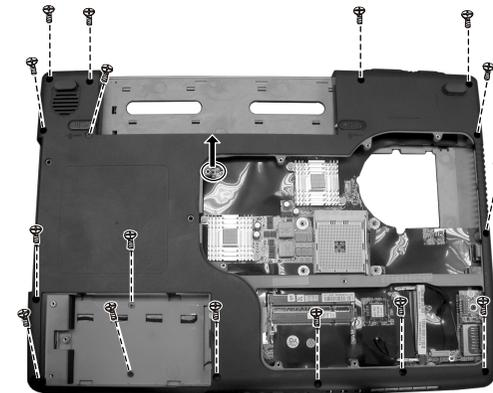

Figure 2-25 Free the housing
3. Disconnect the woofer speaker's cable from the system board, then remove the sixteen screws fastening the housing and free the housing. (Figure 2-25)